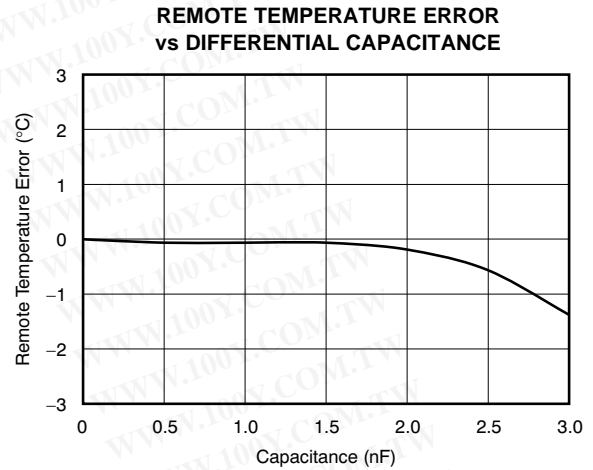

Figure 6.
(3)  $C_{\text{DIFF}}$  (optional) should be  $< 1000\text{pF}$  in most applications. Selection of  $C_{\text{DIFF}}$  depends on application; see the Filtering section and Figure 6, Remote Temperature Error vs Differential Capacitance.
- (1) Diode-connected configuration provides better settling time. Transistor-connected configuration provides better series resistance cancellation.
- (2)  $R_S$  (optional) should be  $< 1.5k\Omega$  in most applications. Selection of  $R_S$  depends on application; see the Filtering section.
- (3)  $C_{DIFF}$  (optional) should be  $< 1000pF$  in most applications. Selection of  $C_{DIFF}$  depends on application; see the Filtering section and Figure 6, Remote Temperature Error vs Differential Capacitance.
- (4) TMP422 SMBus slave address is 1001 100 when connected as shown.
The TMP421/22/23 tolerate differential input capacitance of up to 1000pF with minimal change in temperature error. The effect of capacitance on sensed remote temperature error is illustrated in Figure 6, *Remote Temperature Error vs Differential Capacitance*.